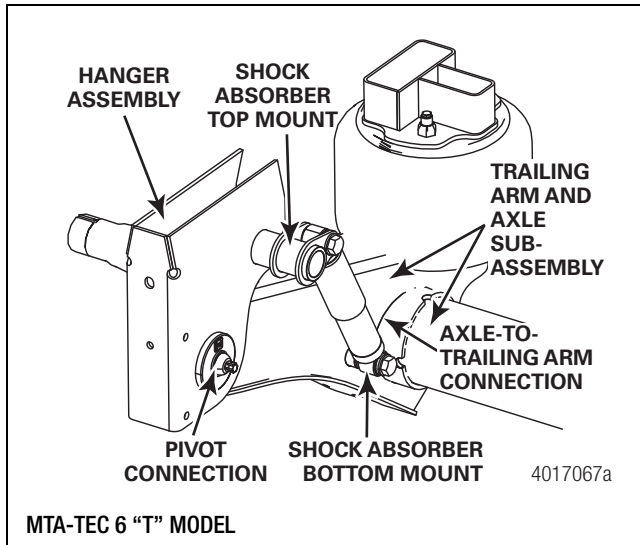
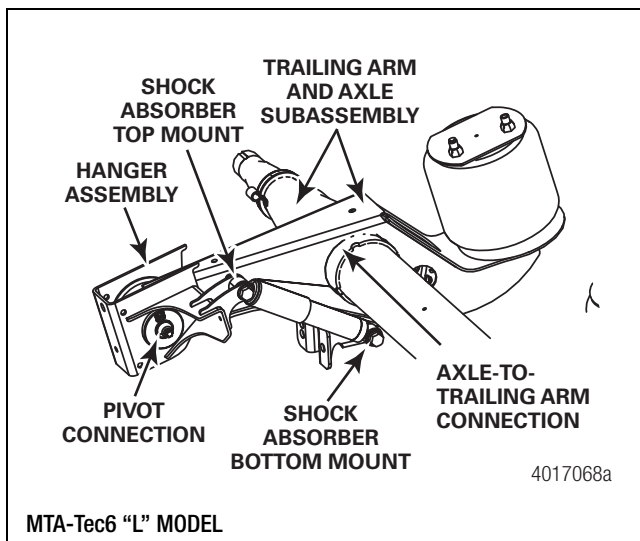

Figure 4.3
Figure 4.4
6. Check the shock absorber bushings for looseness and wear. Inspect the shock absorbers for oil leaks and dents. Replace worn or damaged shock absorbers. Figure 4.3 and Figure 4.4.
- Inspect the structure of the following air suspension components. Figure 4.3 and Figure 4.4.